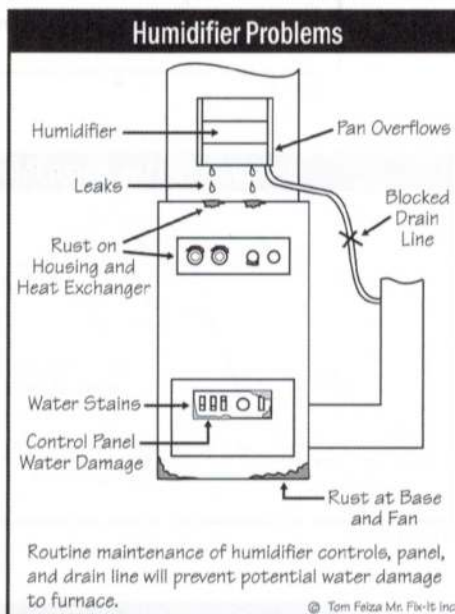

Figure 3
- If your furnace has a built-in humidifier, turn it off. Also, turn off the water supply to the humidifier. Try leaving this humidifier off year-round unless your home becomes extremely dry. *See Figure 3.*